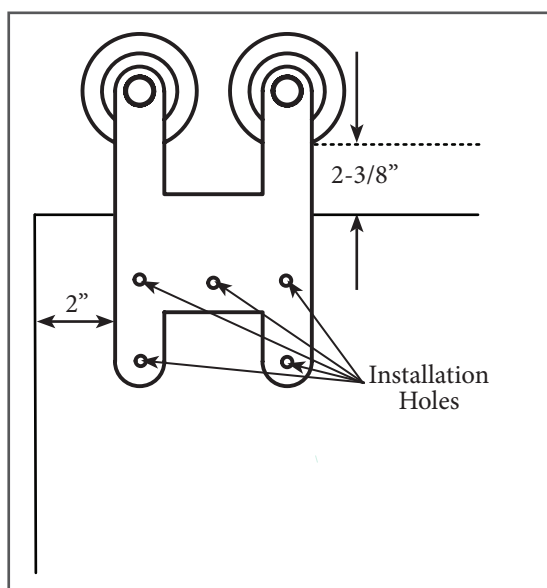

Figure 2
3. Adjust the placement of the hanger for a 2-3/8" gap between the top of the door and the bottom edge of the wheel. Ensure the hanger resting on the door is 2" from the edge of the door (Figure 2).
4. Mark the center of each installation hole with a pencil. (Figure 2).